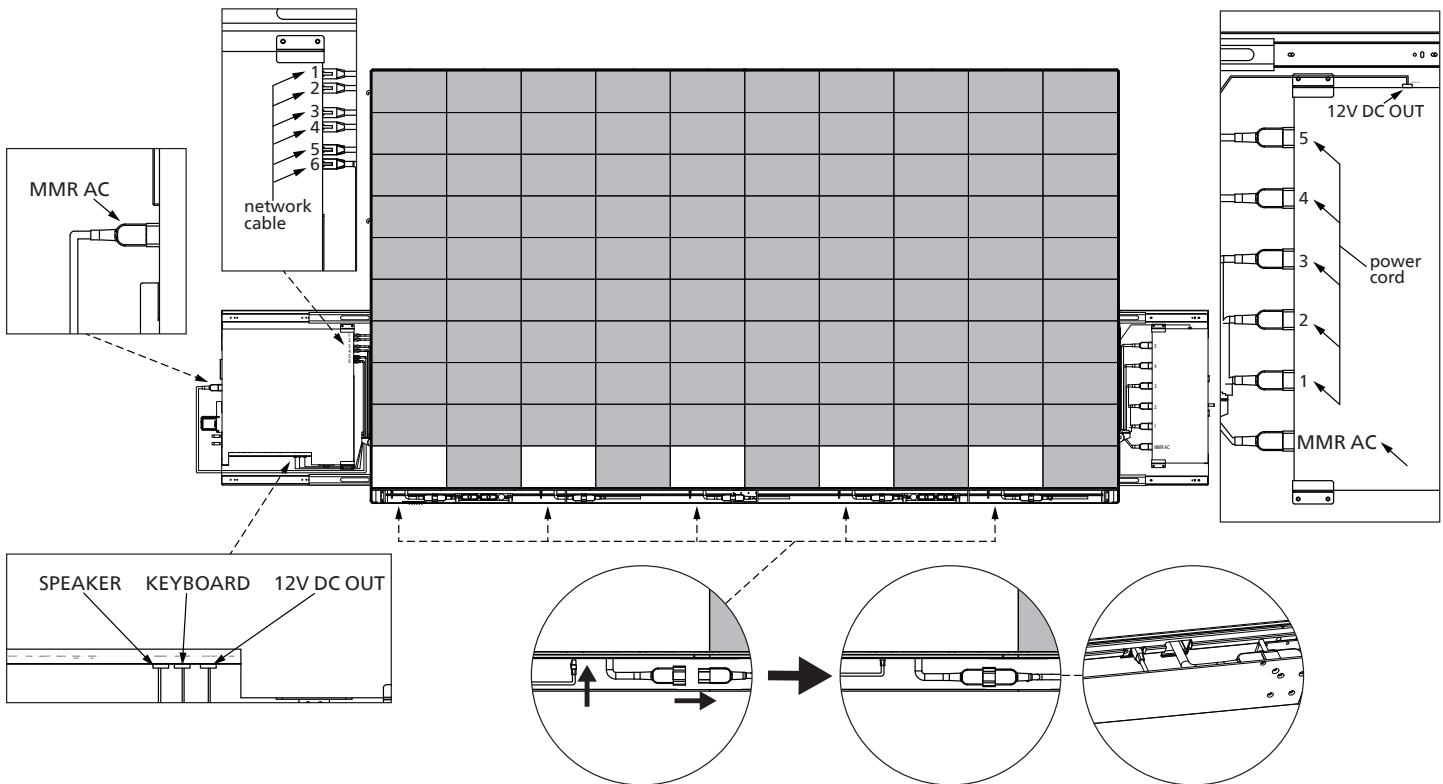

Figure 15 Wire connection
14. Connect the power cord inside the Bottom sound bar to the power cord on the cabinet, and plug the network cable inside the Bottom sound bar into the network port under the cabinet. There are a total of five sets of wires, as shown in Figure 15. Then put all the removed modules back in place in the sequence.
15. Connect the other wires of Modular Meeting Room box and Power supply box as shown in Figure 15.